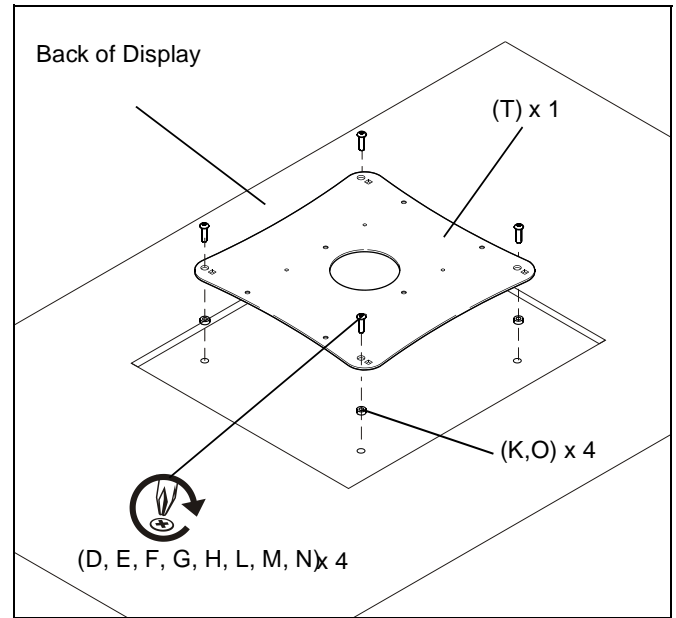

Figure 9
2. Place .125" spacers (K) over each mounting hole in back of display. (See Figure 9)
3. Attach interface bracket (X) to display using four screws (D, E, F, G, H, L, M, N). (See Figure 9)
**NOTE:** If the display has a recessed mounting surface, spacers (K or O) between the display and interface bracket (X) may be required. (See Figure 9)